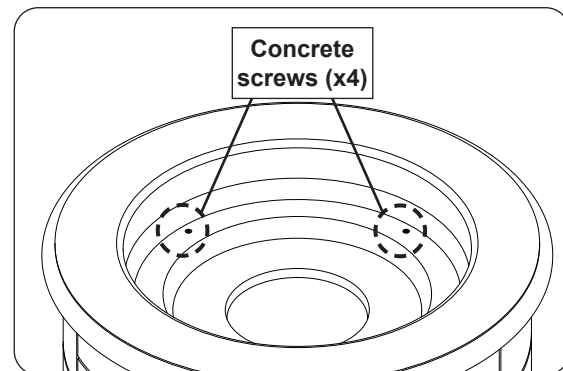

Fig. 31-1 Remove concrete screws
1. Remove the 4 concrete screws from the refractory panel (see Fig. 31-1).